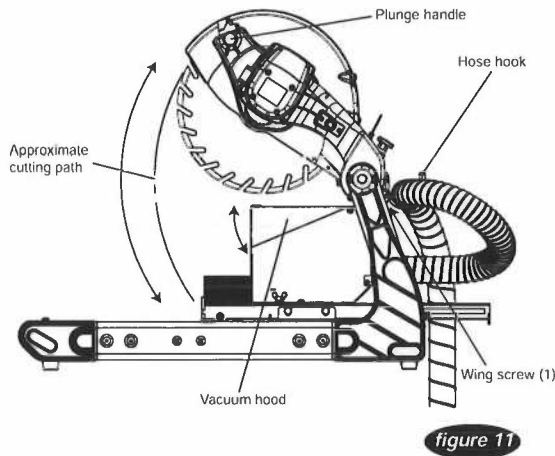

figure 11
7. The vacuum hood can be set to (see figure 11):
- 7a. Raise and lower on its own by loosening the wing screw (1) on the back of the sliding vacuum attachment where the vacuum hose is, maximizing vacuum coverage even when cutting thin long material like pavers. Note that the vacuum hood will lower whenever the blade guard impacts it during a plunge cut.
- 7b. Always be set in the lowered position when plunge cutting short thin materials like bricks by loosening the wing screw (1), pushing the vacuum hood down and then retighten the wing screw (1) on the back of the sliding vacuum attachment where the vacuum hose is.
1. To adjust the angle lock pin, firmly hold the plunge handle and pull on the head of the pin. If the pin does not move, push the plunge handle down slightly until the pin unbinds. (see figure 11 and 13)